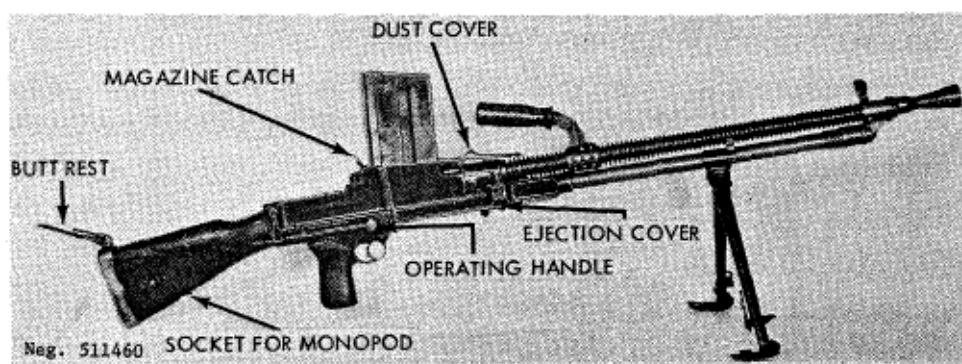
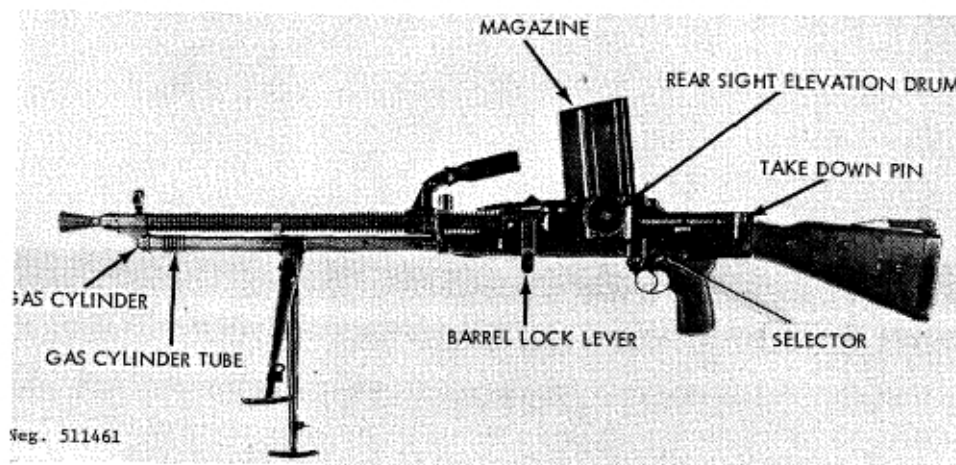
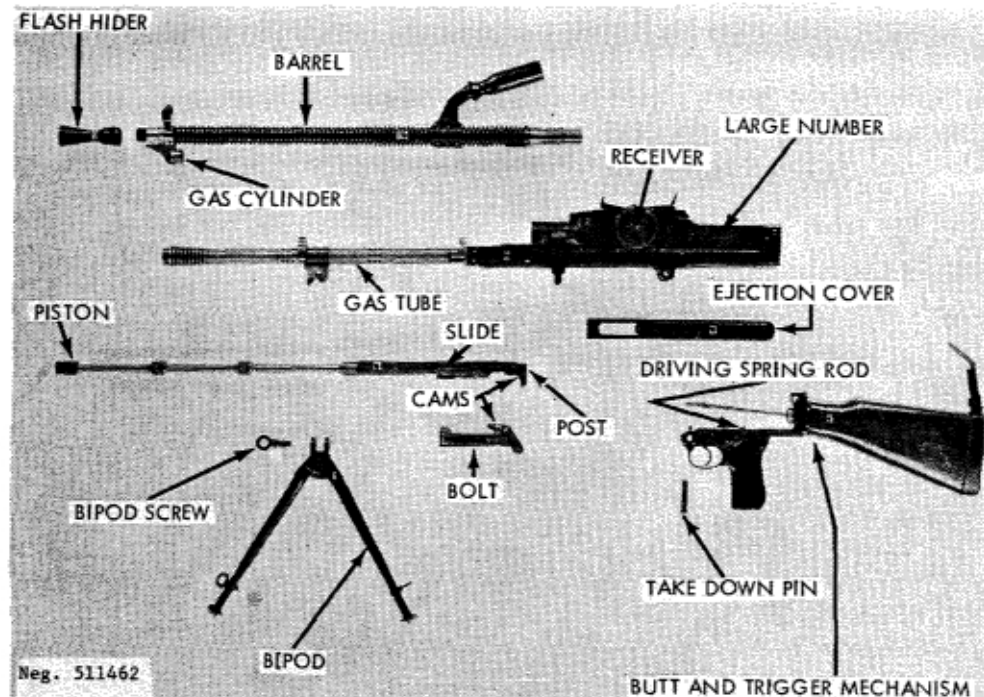
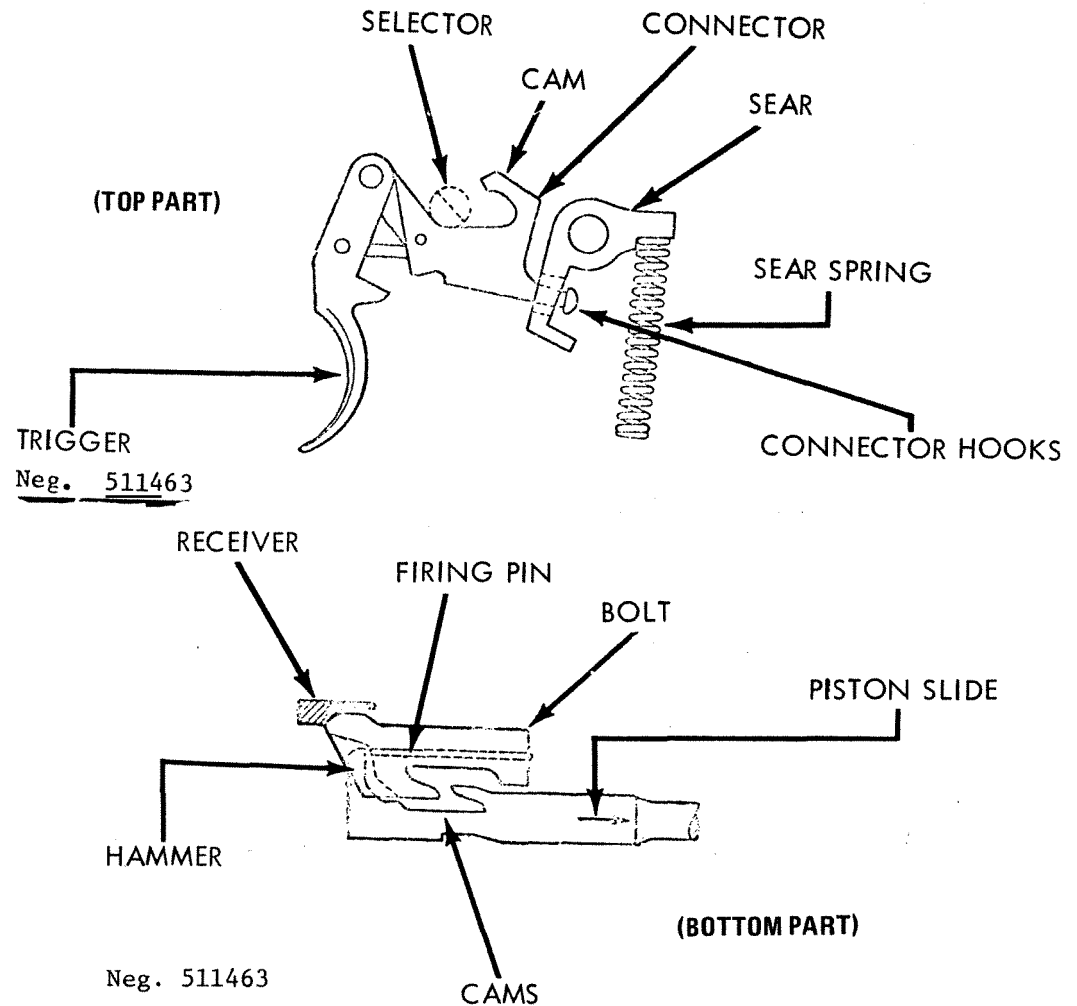

Figure 161. ZB 30 light machinegun.
Figure 162. ZB 26 light machinegun.
Figure 163. PRC copy of ZB 26, field stripped.
Figure 164. ZB30 bolt and trigger mechanism functioning.
a. The Czechoslovak-designed and -produced ZB26 and ZB30 machineguns were among the first modern light automatic guns. The two guns are almost identical externally; the ZB30 (fig 161), however, has a socket in the bottom of its butt to receive a
monopod; the ZB26 (fig 162) does not have such a fitting. Internally the basic design is similar but there are major differences in the shape of the breech bolt and piston slide, and these parts are not interchangeable between models. These air-cooled, box magazine-fed, bipod-mounted guns have many clever design features; some are retained in the design of the later
b. Copies of the ZB26 were produced in China prior to and during World War II; many of these guns were taken over by the People's Republic of China (fig 163) and are now used in Southeast Asia.
c. The Czechoslovak-produced guns can be identified by their markings. The word BRNO along with other Czechoslovak identifying marks will be on the left side of the receiver. The legend Lehky Kulomet ZB VZ 30 (or 26) is on the right side. This latter marking may be different on guns made for export sales. The older Chinese-made guns have serial numbers in large figures stamped into the left receiver wall, often preceded by a swastika (fig 163).
b. Swing the bipod legs forward until they spring apart and lock into place. They can be folded by pressing the legs together and swinging them rearward. The butt rest (fig 161) can be folded or unfolded by pulling it away from its hinge and rotating it to the desired position. This rest can be used to support the gun on the gunner's shoulder while he is firing from the prone position.
c. Slide the dust cover forward, if necessary. Tilt the magazine forward and engage its front lug with the recess in the front of the magazine opening. Rock the magazine back until the magazine catch (fig 161) snaps into place.
d. Rotate the selector (fig 162) to its middle (safe) position. Grasp the operating handle (fig 161), pull it fully rearward, and then return it forward.
c. Turn the elevation drum (fig 162) until the desired range (in hundreds of meters) appears in the opening at the rear of the drum.
f. Rotate the selector (fig 162) forward for automatic fire or rearward for semiautomatic fire. Use a normal sight picture, aim, and press the trigger to fire. The bolt will be caught to the rear when the magazine is empty.
g. Remove the magazine by pressing the magazine catch (fig 161) toward the magazine; at the same time press the magazine forward and rotate it out of the gun. Reload as described in paragraph c above. The gun does not have to be recocked after reloading, because the follower of the empty magazine held the bolt open.
h. The ZB26 and ZB30 machineguns have quick-change barrels. Remove the magazine; press the latch on the inside of the barrel lock lever (fig 162) into the lever to release the lever from the receiver. Rotate the lever up as far as possible, and by means of the carrying handle, pull the barrel forward off the gun. Insert a replacement barrel; insure that the gas cylinder enters the gas cylinder tube (fig 162). Turn the barrel lock lever down until it locks in place; reload and resume fire. The barrel can be changed with the bolt rearward or forward.
i. Clear the gun; set the selector to its middle (safe) position; remove the magazine, and then pull the operating handle rearward. Look through the magazine opening to insure that no cartridges are present. Move the selector from safe, grasp the operating handle, press the trigger, and ease the operating handle forward. Slide the magazine opening dust cover (fig 161) rearward; then slide the ejection cover (fig 161) rearward. Set the selector back to its middle (safe) position.
b. Press out the takedown pin (fig 162) from left to right and slide the butt and trigger mechanism rearward out of the receiver.
c. Holding a hand over the rear end of the receiver, point the front end up. The slide and bolt (fig 163) will slide rearward; remove them. Pull the bolt (fig 163) rearward and up off the slide.
e. To reassemble the gun, place the bolt over the slide post (fig 163) and push the bolt forward on the slide so that the undercuts at the front of the bolt mate with their tracks on the slide. Insert the gas piston into the rear of the receiver, and when the piston is far enough in, align the ribs on the slide and receiver and push the slide into the receiver. Tilt the receiver down until the bolt and slide go forward.
b. The ZB26 and ZB30 machineguns commence their firing cycle with the slide and bolt held to the rear by the sear. The driving spring is compressed. When the trigger is pressed, the sear disengages from the slide (figs 163 and 164) and the compressed driving spring forces the slide and bolt forward. The feed ribs on the top of the bolt force a cartridge from the magazine and drive it into the chamber. The front of the bolt strikes the end of the barrel; the extractor snaps into the groove of the cartridge case; and the bolt stops. The slide continues forward, and a cam on its top side forces the rear end of the bolt upward into its seat in the receiver. The slide then continues forward a short distance and its hammer (fig 164) strikes the firing pin to ignite the cartridge.
d. As the slide moves, the cams on the slide (fig 164) contact the bolt and pull it down from its locked position; when unlocked, the bolt and slide travel rearward as a unit. The extractor pulls the fired cartridge case from the chamber and holds
e. By rotating the selector (fig 162), the ZB26 or ZB30 trigger mechanism can be set for either semi- or full automatic fire. When the selector is rotated forward to the full automatic setting, a solid section on its shaft depresses the connector, which fits through a hole in the lower arm of the sear. As the trigger is pressed, the connector moves forward; the lower hook (fig 164) engages the sear and causes it to rotate about the pin. The sear nose releases the slide, the firing cycle commences and continues until the trigger is released and the sear spring forces the sear up to intercept the slide.
f. When the selector is rotated rearward to the semiautomatic setting, the connector raises to its highest position; as the trigger is pressed, the upper hook of the connector raises to its highest position. As the slide drives forward, it hits the cam (fig 164) on the connector and forces the connector down. The hook releases the sear that, because of its spring, snaps up and catches the slide when it recoils. Thus only one shot is fired; the trigger must be released to allow the connector to move rearward and its hook to reengage the sear so that a second shot can be fired.
g. When the selector is rotated to its middle or safe position, the hooks are positioned centrally in the hole in the sear (fig 164). Thus, when the trigger is pressed, the connector hooks do not activate the sear to release the slide.